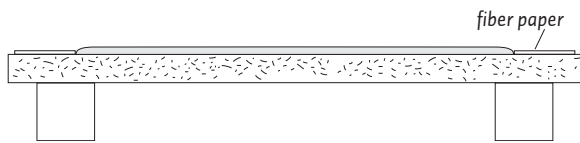

Figure 5
1. Insulate the edges of the glass piece with ceramic fiber paper, blanket, or board. This will slow down heat release from the edges. (Figure 5)